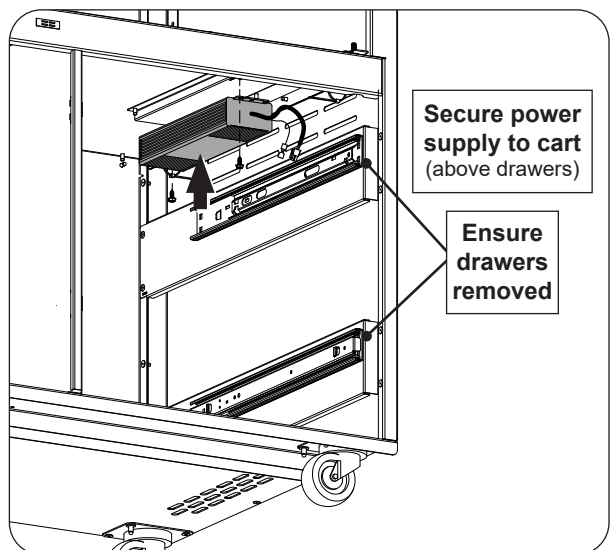

Fig. 10-4 Mount power supply
1. Take the power supply and mount it to the cabinet ceiling using the provided screws and a flathead screwdriver or 5/16" hex nut driver. See Fig. 10-4 for proper orientation.